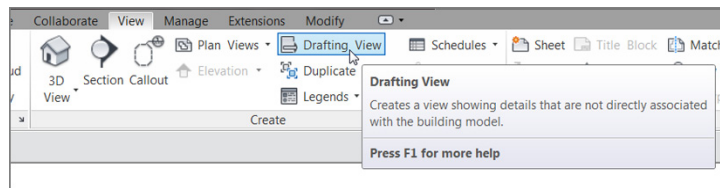

FIGURE 12.54: Click the Drafting View button on the View tab.
1. On the View tab, click the Drafting View button, as shown in Figure 12.54.